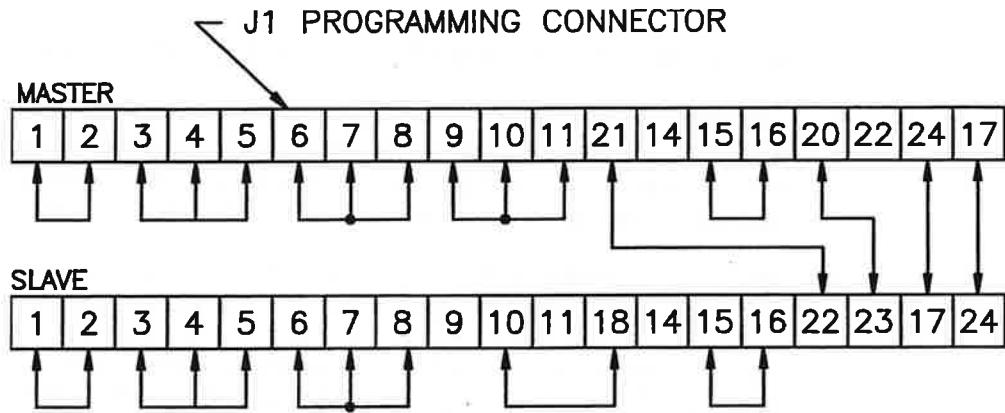

FIGURE 3.14: Paralled Operation in Master/Slave Configuration with OVP Master/Slave.
- B) Figure 3.14 for Master/Slave with OVP Master/Slave. In this configuration both Master and Slave will shut down with an OVP Function.